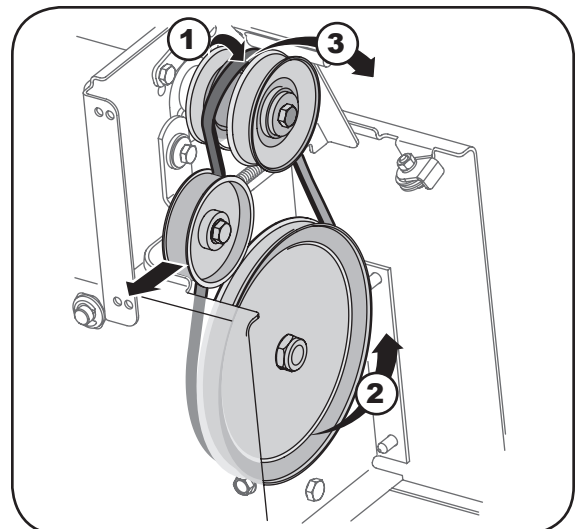

Figure 31
1. Pull the idler pulley away from the backside of the drive belt to relieve the tension and slide the drive belt off the idler pulley. See Figure 31.